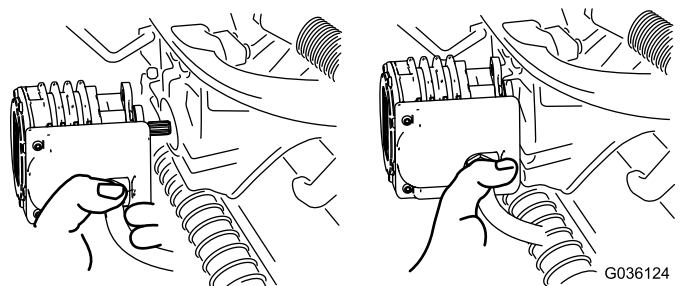

Figure 74
5. Move the motor to the storage location on the front of the suspension arm (Figure 74).